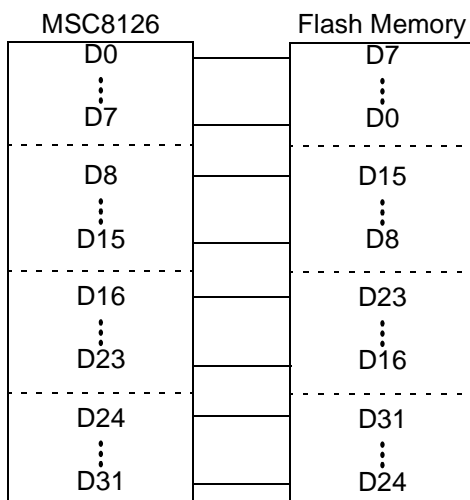

Figure 1. MSC8126 to Flash Memory Byte Lane Reversal
- *Flash Memory Devices.* The data lines of most Flash memory devices connect to the MSC8126 with byte lanes bit-reversed for programming algorithm purposes. A 32-bit example is shown in **Figure 1**. The figure is correct for a Flash SIMM composed of 8-bit Flash devices. Adjust the byte lanes as necessary for the memory in your design. The Flash memory interface requires a reset input that should connect to the MSC8126 $\overline{\text{PORESET}}$.